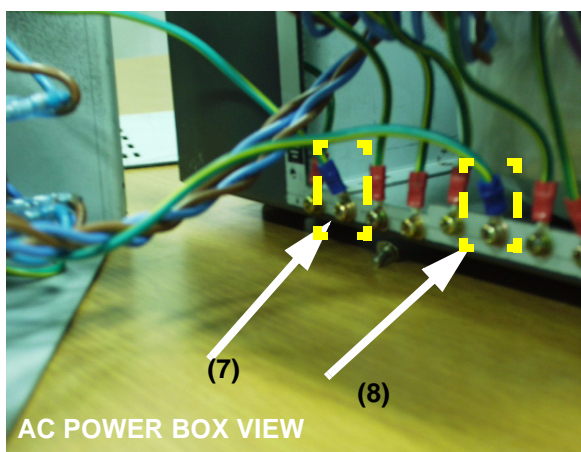

Figure 8-195 Unscrew two ground screws
- 4.) Unscrew two (2) ground screws (7-8). Refer to Figure 8-195.